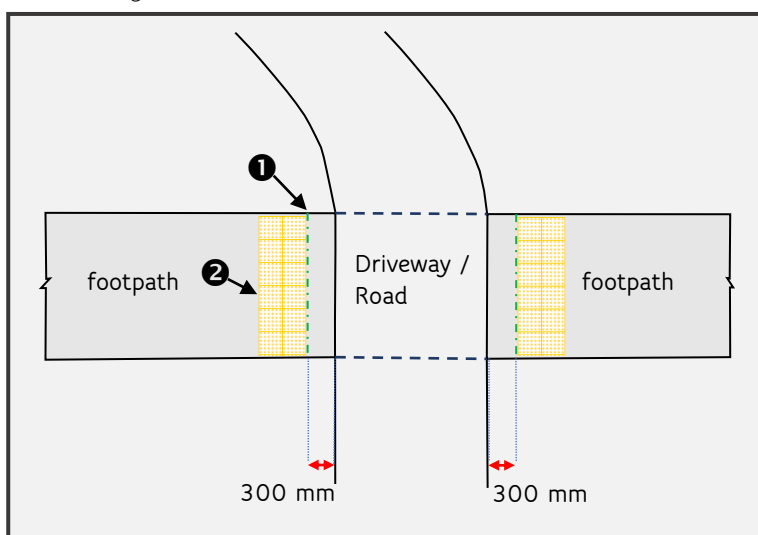

Figure 1 - Straight Driveway / Road
- 2 Place 2 rows of tactile indicators touching this imaginary line as shown in Figure 1.